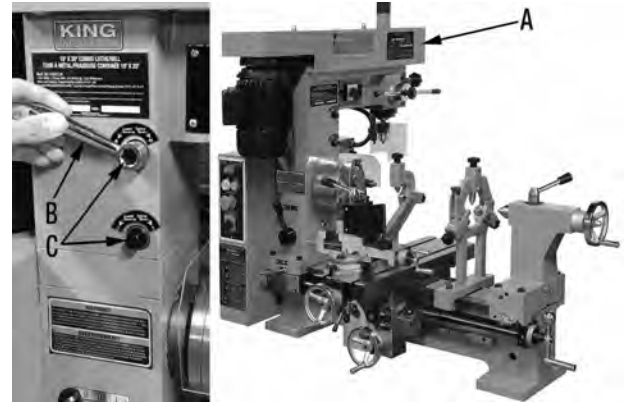

FIGURE 7
IMPORTANT: Before using this machine in Metal Lathe mode, the Mill/Drill head (A) Fig.7 must be pivoted out of the way towards the rear of the machine to allow for clearance and avoid any form of contact with moving Metal Lathe parts.
Using the supplied key (B), loosen both head locks (C) and pivot the Mill/Drill head towards the rear of the machine as shown in Fig.7. Retighten both head locks (C).